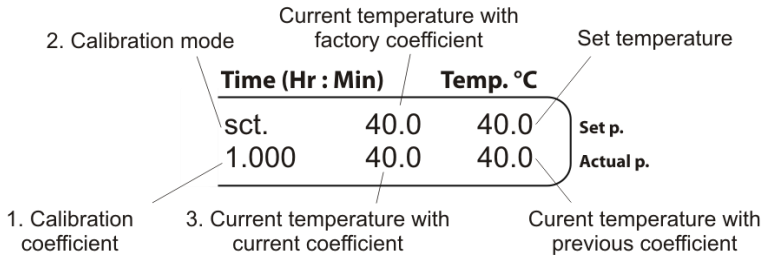

Figure 3. Control panel in calibration mode
6.2. To change the calibration coefficient, hold the **RUN/STOP TIME** key (fig. 1/7, **CH-100**) or **Start Stop** (fig. 2/7, **CH 3-150**) key pressed for more than 8 s to activate calibration mode. The calibration mode appears on the display (fig. 3).
6.3. **Restoring factory settings.** Set 1.000 value using the ▲ and ▼ **Temp** or **T (°C)** keys as shown on fig. 3/1 to restore the factory settings. Press the **RUN/STOP TIME** or **Start Stop** key once to save the changes and exit the calibration mode.
6.4.4. Let us assume that the readings of independent sensor is 39°C, but the display's actual temperature is 40°C (fig. 3/4). Then it is necessary to add 1°C correction.
6.4.5. Hold the **RUN/STOP TIME** or **Start Stop** key pressed for more than 8 s to activate calibration mode. The following parameters will be shown on the display (fig. 3).